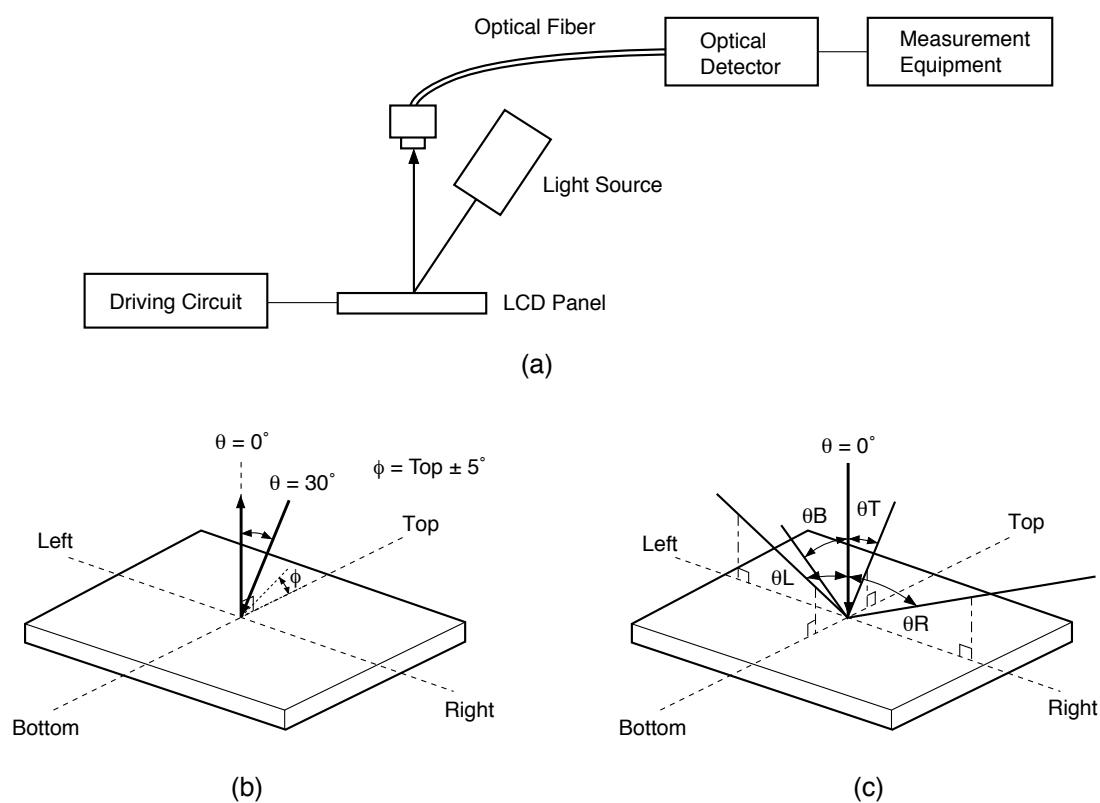

Fig. 1 Measurement System-1
1. Reflection ratio (R)
In the Measurement System-1 (see Fig. 1 (a), (b)), calculate the reflection ratio by using the formula (1).
2. Contrast ratio (CR)
In the Measurement System-1 (see Fig. 1 (a), (b)), measure the reflection ratio of "White" and "Black" respectively and calculate by using the formula (2).
In the Measurement System-1 (see Fig. 1 (c)), viewing area is defined by the area which makes the $CR \geq 5$.